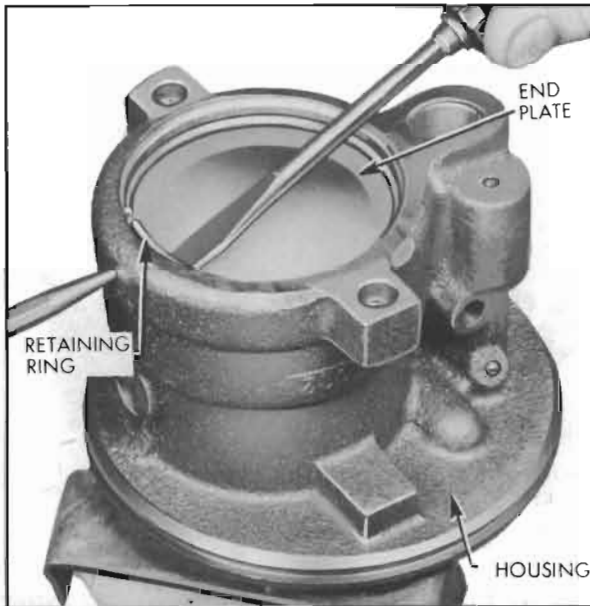

Figure 8-54—Removing End Plate Retaining Ring
8. Rotate end plate retaining ring until one end of ring is over hole in housing. Spring one end of ring with  $\frac{1}{8}$ " punch to allow screw driver to be inserted and lift ring out. See Figure 8-54.